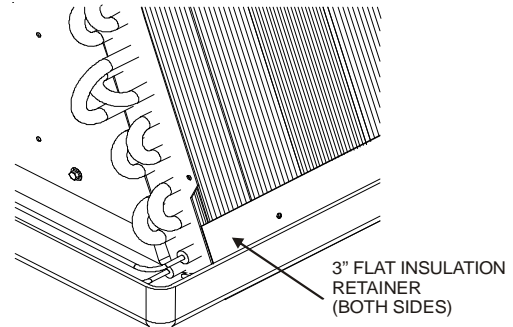

Figure 4
10. To prevent possible condensate “blow off” the insulation retainers are to be laid into the evaporator coil pan as shown in **Figure 4**.